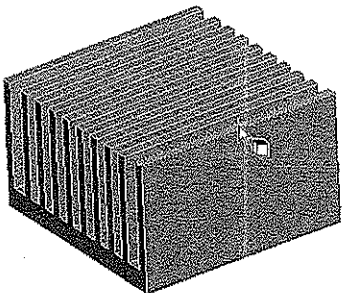

Figure 11-64 Selecting a face of the fin in the Graphics screen
- 6. Choose the **Face** tool from the **Select** toolbar and then select the top-face of the fins in the Graphics screen, as shown in Figure 11-64.